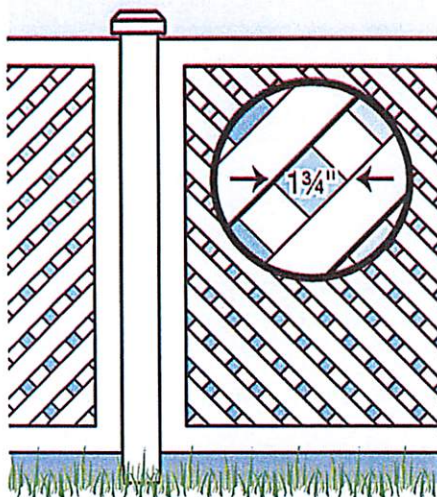

Figure 7
9. Where the barrier is composed of **diagonal members**, such as a lattice fence, the maximum opening formed by the diagonal members should be no more than  $1\frac{3}{4}$  inches (figure 7).